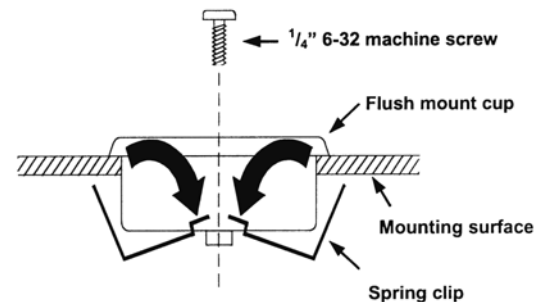

FIGURE 1
- 2) Secure the cup in the mounting cutout by using the spring clips and screw provided. Slip the spring clips through the bottom of the cup and tighten the screw until the cup is firmly seated. See Figure 1.